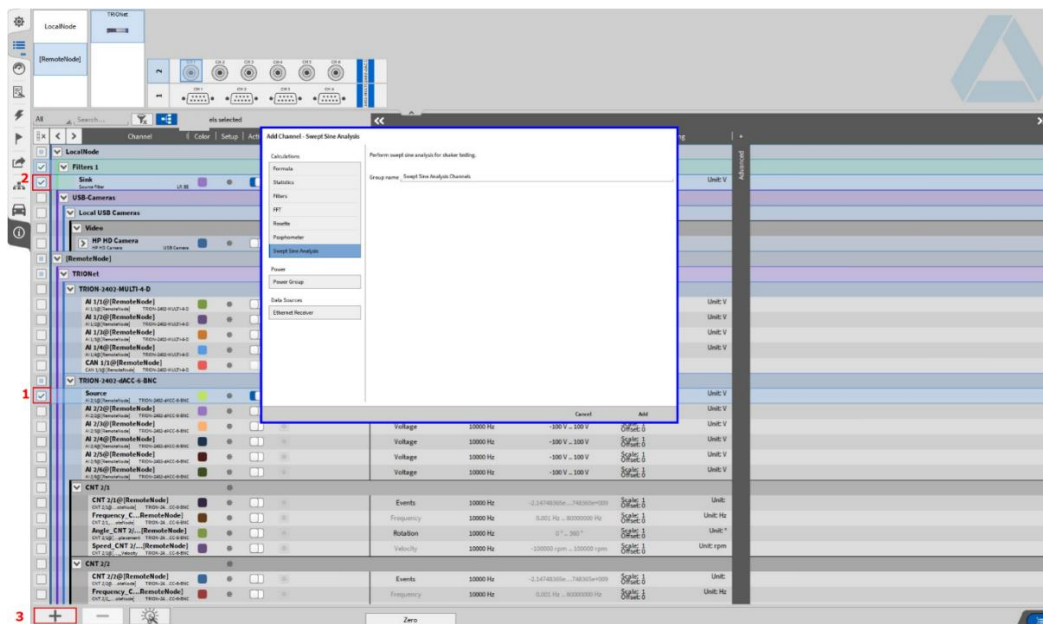

Figure 5-62: Steps to configure a Swept Sine Analysis
- At first, mark the checkbox of the channel which provides the reference signal for the Swept Sine Analysis (see ① in Figure 5-62)
- Next, mark the channel that provides the signal measured on the signal sink (see ② in Figure 5-62). Several sink signals could be applied to one Swept Sine Analysis group.
- Click on the PLUS (see ③ in Figure 5-62) sign to open the math setup and select *Swept Sine Analysis*. Edit the channel group name if desired and click on the OK button afterwards.